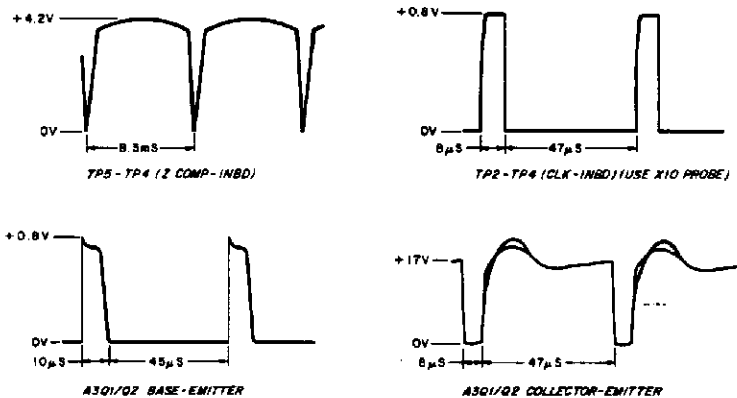

Figure 7-8. Control Logic Waveforms
b. Logic circuit waveforms (Figure 7-8), showing waveforms which are used in conjunction with the troubleshooting procedures of Section V.